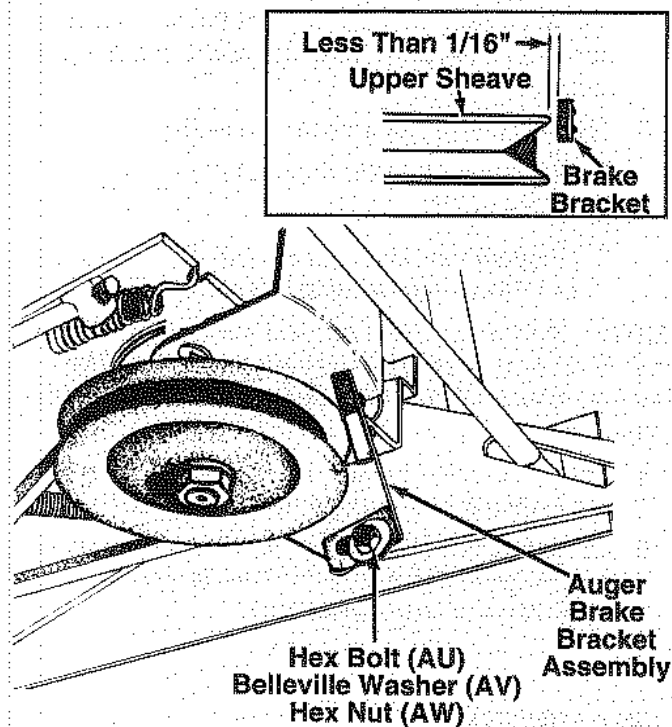

FIGURE 21.
17. All units **EXCEPT** with 44" deck or electric PTO: Attach the auger brake bracket assembly to linkage bracket on the right side of your unit. See figure 21. Secure with hex bolt (AU), Belleville washer (AV) (cupped side goes against the brake bracket) and hex nut (AW). Do not tighten.
- b. Adjust the brake bracket so the brake pad is **less than 1/16"** away from the upper sheave of the pulley. See figure 21, inset. Tighten the hex bolt and nut to hold the bracket in this position.